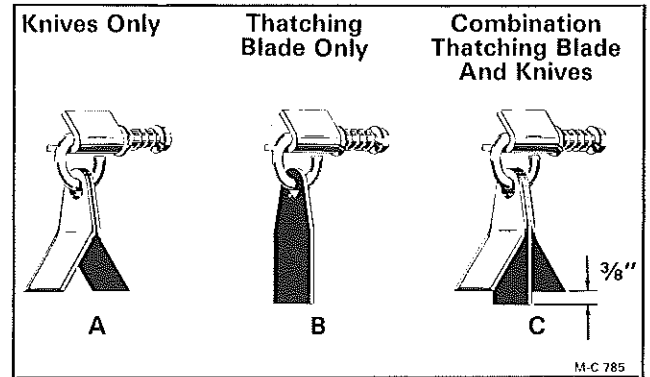

Figure 22
**NOTE:** The tapered thatching blades are no longer available. They have been replaced with the new square end thatching blades shown in Figure 22.
1. Thatching blades can be installed between the two knives on the knife hangers (see "C" in Figure 22) or the knives can be removed and thatching blades alone installed on the hangers (see "B" in Figure 22).